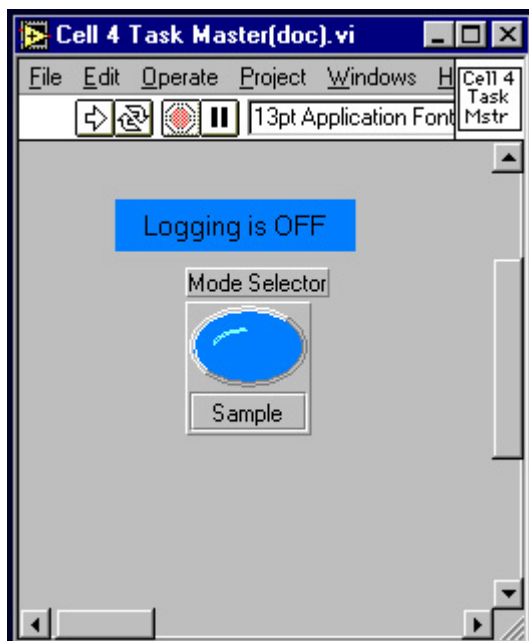
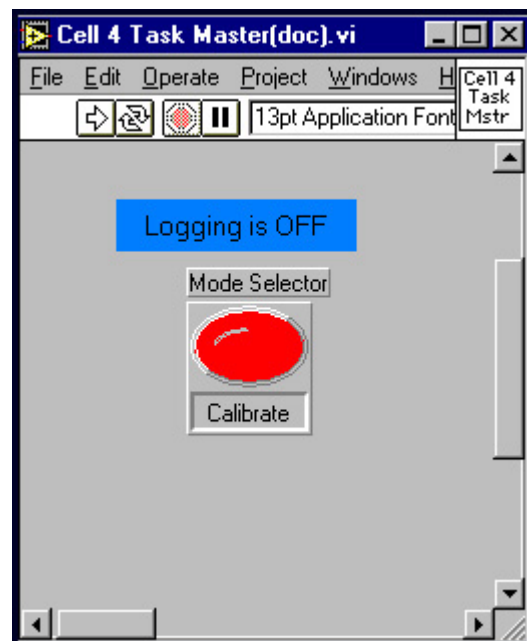

Figure 4a
Figure 4b
- 108 On the “Cell 4 Task Master(doc).vi” screen, use the mouse to select the blue “Mode Selector” button (see Figure 4a) to change its color from blue (see Figure 4a) to red (See figure 4b), if the mode selector is blue.